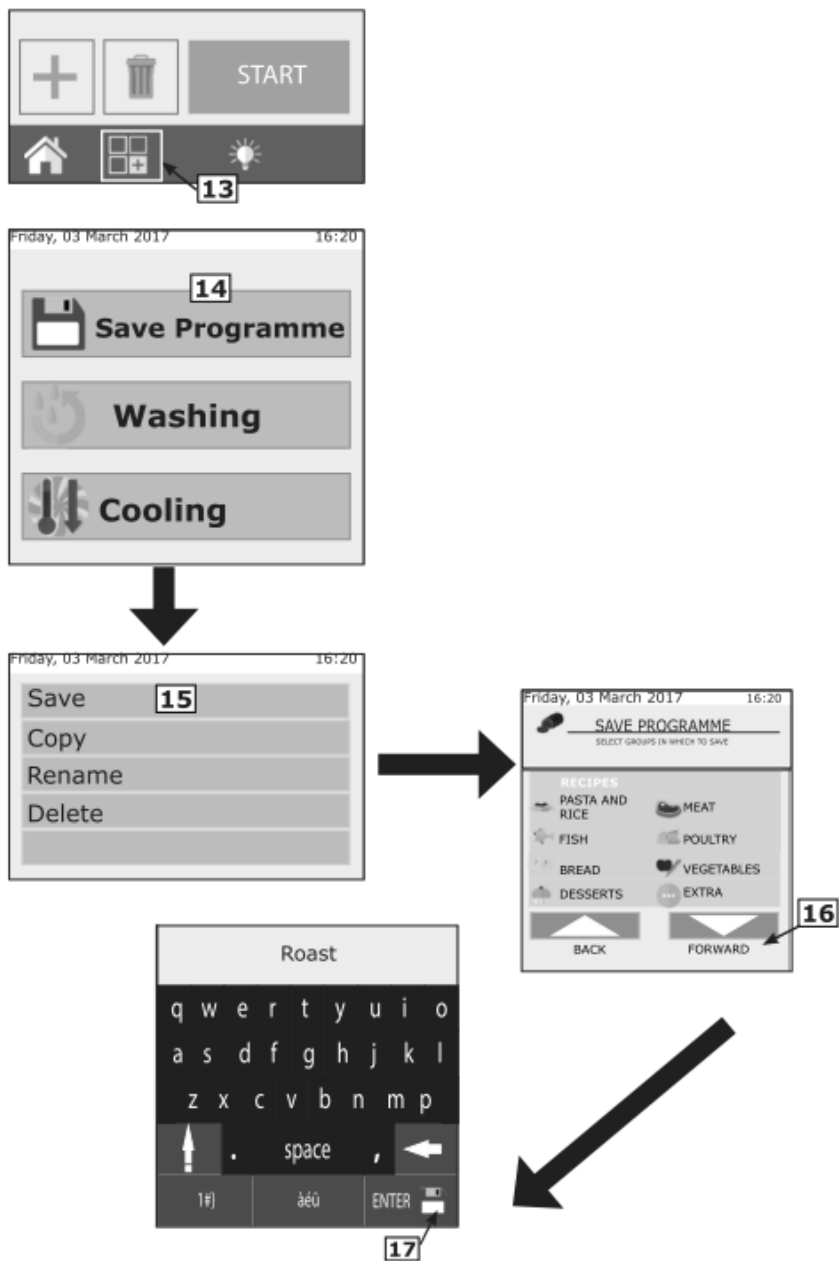
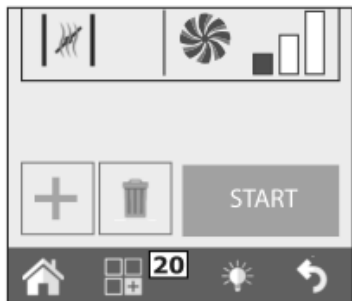

Fig. 23
Fig. 26
After having created a cooking program, press the functions key (13, Fig. 23), to access the programs function screen.
Select "Program Save" function (key 14, Fig. 23) and in the next screen press "Save" (15, Fig. 23), then select which group to save the program in. Then press "Next" key (16, Fig. 23).
Enter the program name and press "Enter" (key 17, Fig. 23) to save it.
Make required changes and press "Functions" (**20**, Fig. 26), select "Save" and then "Copy".
If you want to move a program from one group to another, open the program and press "Functions" key (**20**, Fig. 26). Select "Save" and then "Move". Select the new group or new groups in which to move it and confirm with "Next" key (**16**, Fig. 23) .
Open the program and press "Functions" (**20**, Fig. 26), select "Save" and then "Rename". Type in the new name and press "Enter".
Open the program and press "Functions" (**20**, Fig. 26), select "Save" and then "Delete". Confirm by pressing **YES** in the pop-up window.